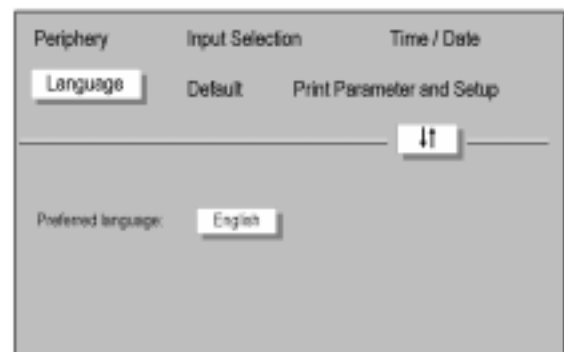

Figure 1-3
Two vertical arrows -**↑↓**- on the dividing line (B), such as in Figure 1-3, indicate that an entry or a selection can be made as follows:
- > Use the **←→** keys to highlight your choice in the menu bar (A) and press **OK**.
- > Use the vertical arrows **↑↓** to move to the (C) area of the screen.